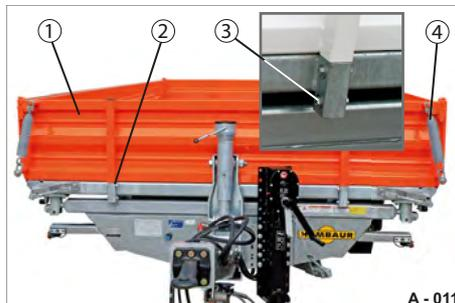

Fig. 13 Front platform gate mounted
The front platform gate (Fig. 13/1) is fixed down on the chassis.
The front platform gate is plugged into two side posts (Fig. 13/2) and secured with a bolt connection (Fig. 13/3).
- ▶ Release the bolt connections (Fig. 13/3) on the posts (Fig. 13/2).
- ▶ Loosen the platform gate lifting springs (Fig. 13/4).
- ▶ Lift the front platform gate (Fig. 13/1) out of the side posts.
- ▶ Insert the front platform gate (Fig. 13/1) into the posts (Fig. 13/2).
- ▶ Secure the front platform gate with the bolt connections (Fig. 13/3).
- ▶ Attach the platform gate lifting springs (Fig. 13/4) and secure them with the safety splint pins.